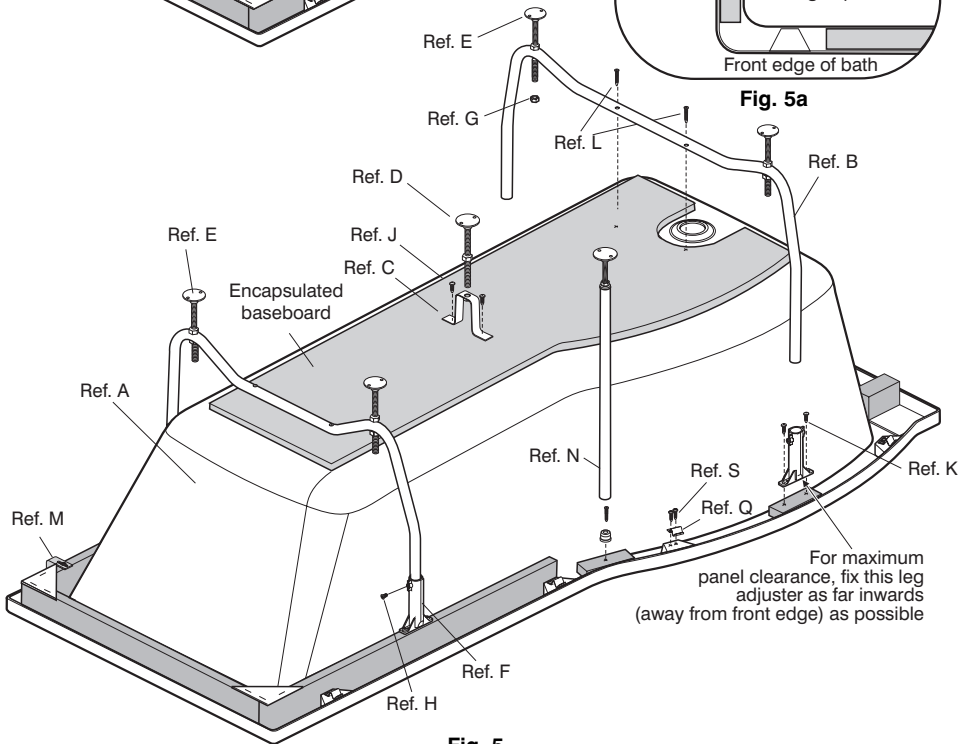

Fig. 5
4. Locate centre support bracket towards the centre of the baseboard, mark screw hole positions, pilot drill holes ($\text{Ø}3\text{mm}$) in base board to a depth of 6mm maximum and secure bracket, use screws (Ref. J). Fit the single support leg black end cap onto relevant block (Fig. 5 & 5a) using the supplied screw.